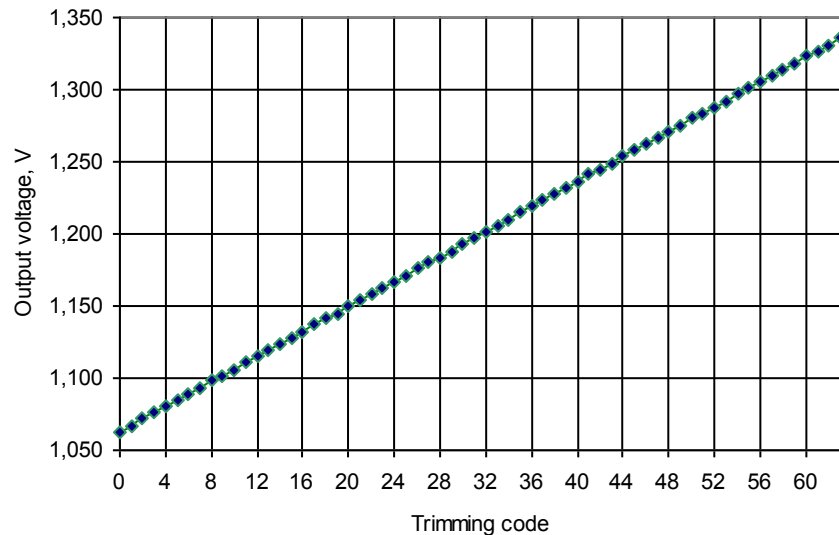

Figure 5: LDO output voltage vs trimming code
- Section 10 “Typical characteristics”. Figure 5 updated